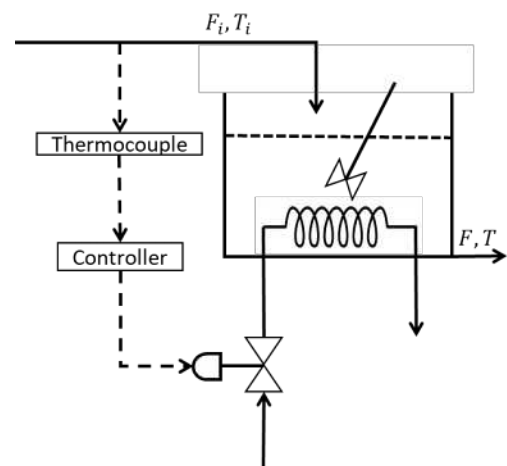

Figure Q6: Controlling temperature in a tank.
6. What type of control system has been implemented in the heating process in Figure Q6?
Figure Q6: Process flow diagram for toluene hydrodealkylation process to produce benzene. Separator is a flash distillation unit. Toluene column, benzene column and stabilizer are multistage distillation columns with condenser and reboiler.
In the process flow diagram in Figure Q6, hydrogen and toluene are converted into benzene in the vapour reactor (PFR), with methane and diphenyl as by-products. The effluent from the adiabatic reactor is quenched with liquid from the separator. The separation section comprising three multi-stage distillation columns purifies the benzene product and recovers and recycles unreacted toluene. The partial condenser in the stabilizer unit removes any remaining hydrogen and methane gas from the liquid components. The toluene column bottoms is almost pure stream of diphenyl by-product formed in the reactor.